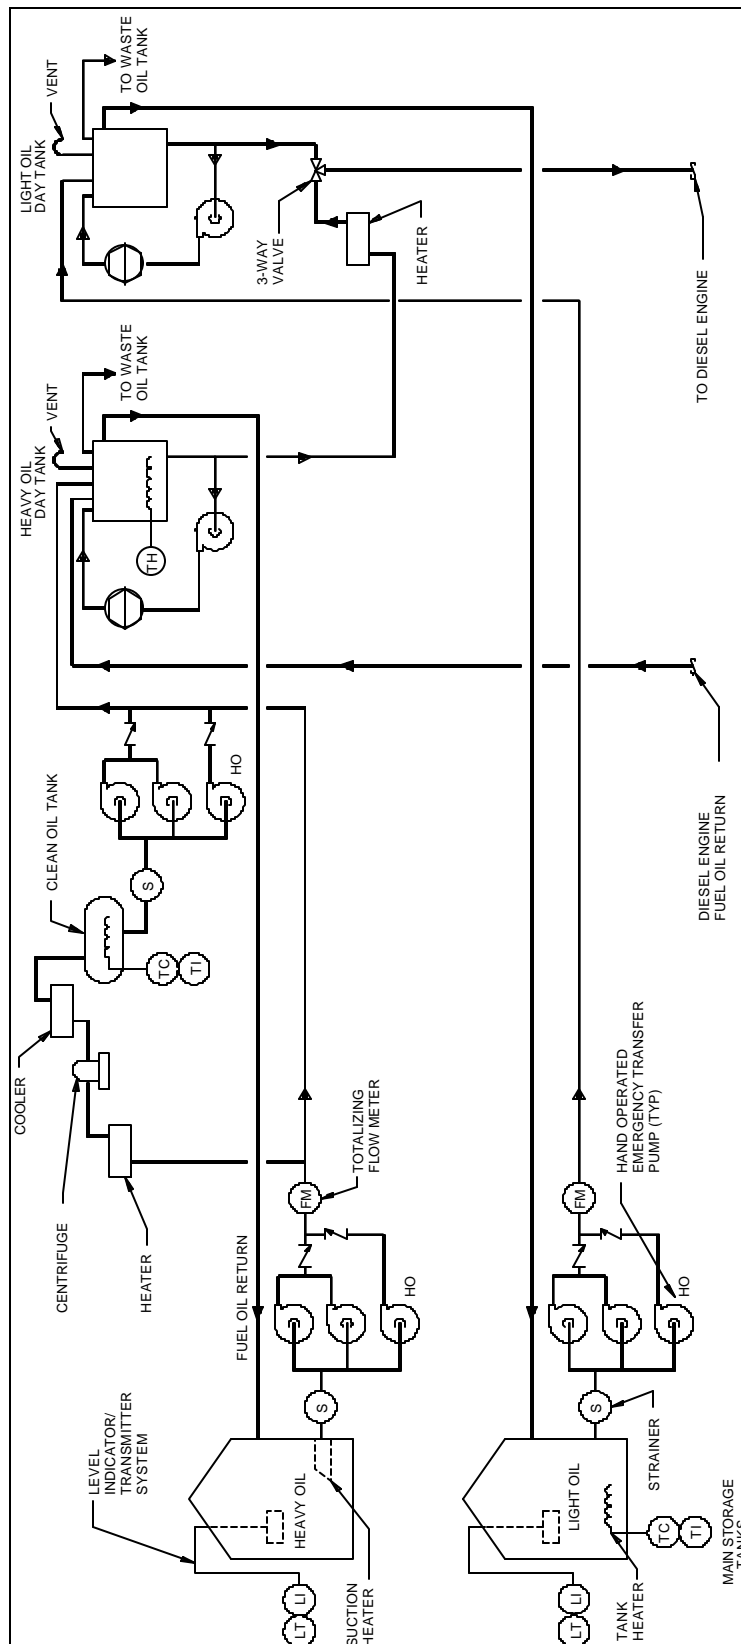

Figure 5-1. Complex fuel oil system - supply
A more complex fuel oil system is shown on figure 5-1. The complex fuel oil supply system is serving a diesel engine unit that can run on less costly heavy fuel oil (No. 5 or No. 6), but requires a more expensive light fuel oil (No. 1-D, No. 2-D, No. 1, or No. 2) for starting the engine. In this instance, the
*b. Conditioning.* Because of the water and sediment in the as-delivered heavy fuel oil, the heavy fuel oil requires conditioning before final use. In the example system on figure 5-1, fuel oil conditioning is accomplished using a centrifuge. The heavy fuel oil feed to the centrifuge must be further heated to reduce the viscosity into the atomizing range. The fuel oil discharged from the centrifuge is passed through a fuel oil cooler to eliminate flash point problems before being discharged into a clean oil storage tank that is heated to keep the fuel oil viscosity at a pumpable level.
(1) The heavy fuel oil and light fuel oil are supplied to the engine through a three-way valve. On initial starting, the three-way valve is positioned to use light fuel oil. Light fuel oil is used until the engine reaches operating speed and temperatures. Once the engine operation is stabilized, the three-way valve is positioned to supply heavy fuel oil to the engine. During a normal shutdown, the three-way valve is positioned to supply light fuel oil to the engine to purge the heavy oil from the engine fuel system before engine operation is terminated.
(2) The fuel oil day tanks are positioned above the engine so fuel oil is supplied by gravity to the inlet of the engine-driven fuel oil pump. Some installations may require self-priming, engine-driven fuel oil pumps to draw fuel into the pump, or there may be an additional set of pumps between the day tanks and the engine-driven pump to get the fuel oil to the engine-driven pump inlet. Whenever the engine fuel oil system has been drained, many engine designs require that the system be filled with fuel oil before a normal start is attempted and a hand-operated pump is provided for this purpose. Fuel oil supplied to the engine-driven fuel oil pump passes through a shutoff valve and a duplex strainer. The engine-driven fuel oil pump discharges through a duplex fuel oil filter to the engine fuel injection system. Excess fuel oil passes through an air-cooled fuel oil cooler, a check valve, and an engine fuel oil system isolation valve, and is returned to the heavy fuel oil day tank.